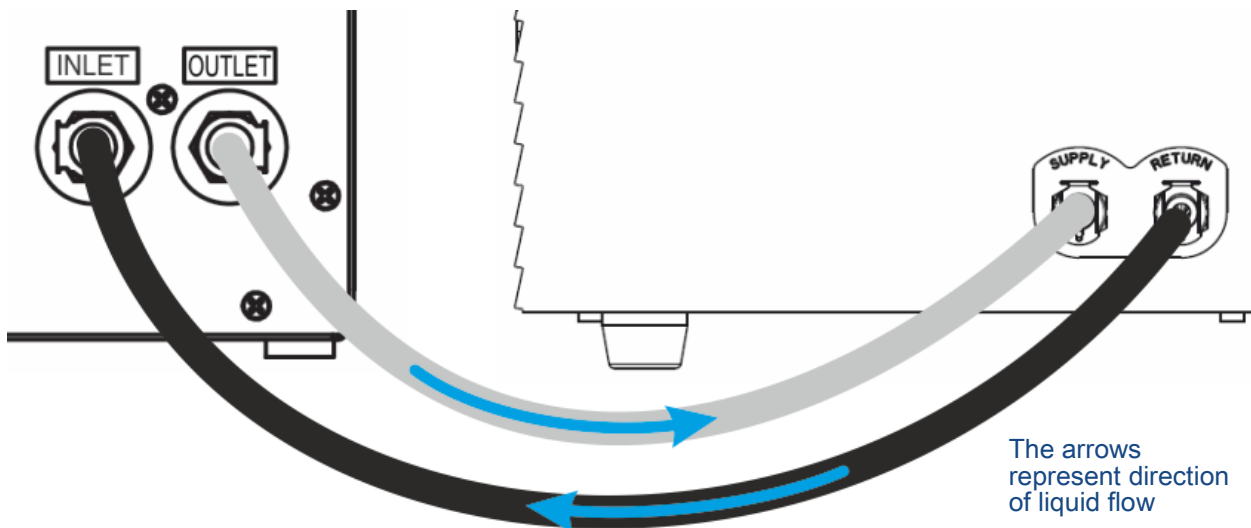

Figure 81: Cooling module/liquid cooling device connections
- Connect the coolant OUTLET of liquid supply of the liquid cooling device to the instrument's SUPPLY port on the back of the cooling module. Use the provided tube. (See figure below and Figure 81).